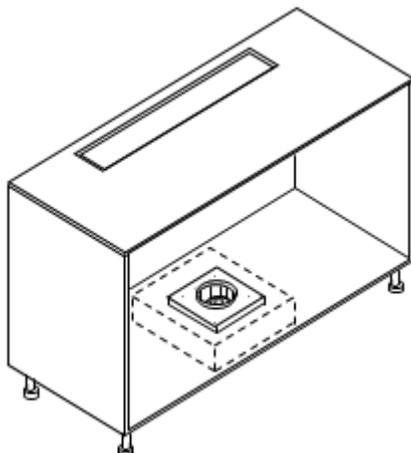

Fig 61
3. Place lid on the inside of the cupboard in line with the motor and fix in place (Fig 61)